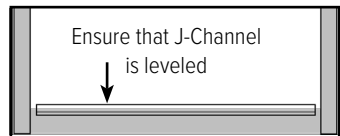

Figure 3.1.1
3.1.1 Set the J-channel on the base reveal, center it on the wall and level it as shown in Figure 3.1.1.